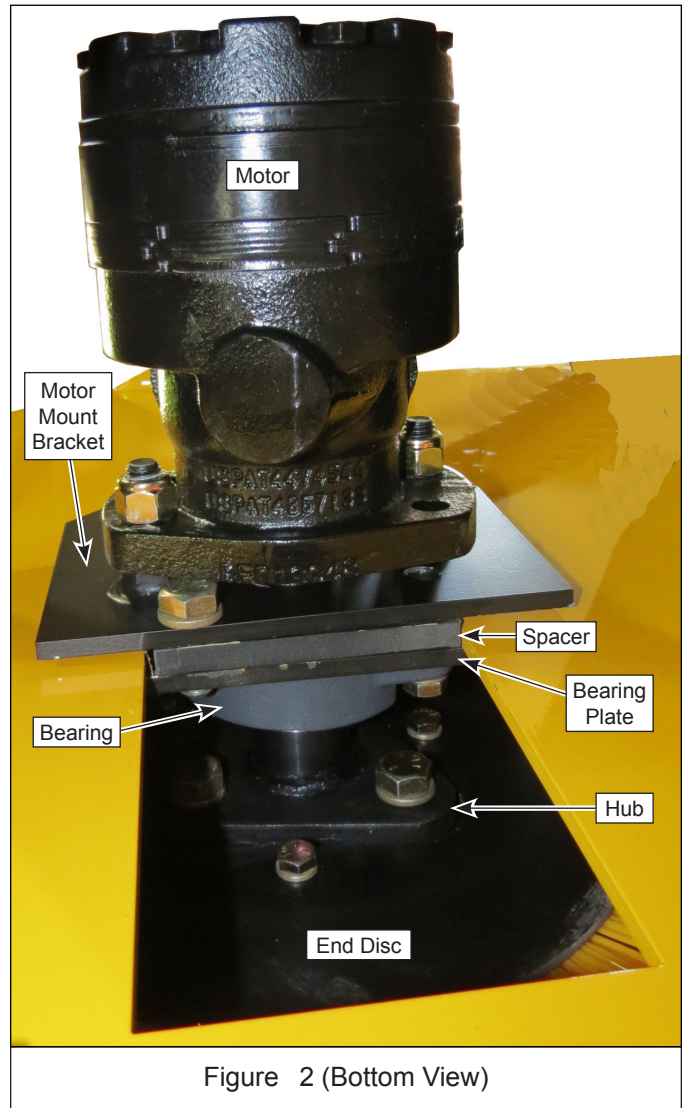

Figure 2 (Bottom View)
3. Remove (2) 1/2"-13 lock nuts and motor from mount bracket. Slide motor out of mating splined hub. Let motor hang on hoses. Retain mounting hardware. See Figure 2.
2. Remove (3) 1/2-13 x 1" capscrews, lock washers and splined hub from end of core. Retain hub and mounting hardware. See Figures 2 and 3.
3. Remove (3) 5/16-18 x 3/4" capscrews, lock washers and end disc (wafer retainer plate) from end of core. Retain end disc and mounting hardware. See Figures 2 and 3.
4. Install end disc on core with original hardware. See Figures 2 and 3.
5. Install splined hub on core with original hardware. See Figures 2 and 3.